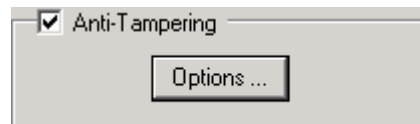

Fig. 76 "Anti-Tampering" (= tamper detection) checkbox on the "Cameras" or "LAN cameras" tab
2. Mark the checkbox **Anti-Tampering** (see Fig. 76).